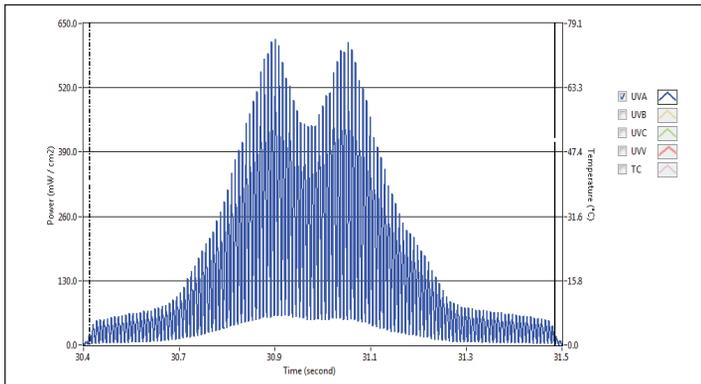
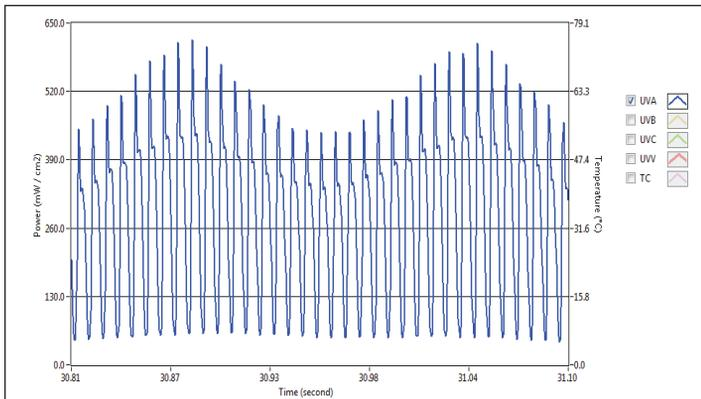

Figure 3. The peak irradiance in this example is 618.0 mW/cm² and the total energy density is 139.9 mJ/cm².
Figure 4. This 0.30-second portion of Figure 3 shows the lamp irradiance cycling based on the 50 or 60 Hz frequency of the alternating current.
The data in Figure 3 are of the same source measured at an effective sample rate of 2048 Hz. The peak irradiance in this example is 618.0 mW/cm² and the total energy density is 139.9 mJ/cm². There is a 94% difference in the peak irradiance value, while energy density values have remained the same. The irradiance values and profile shown are often referred to as the instant peak.
Zooming in on a 0.30-second portion of Figure 3 allows readers to see, in Figure 4, the lamp irradiance cycling based on the frequency (50 or 60 Hz) of the alternating current (AC).